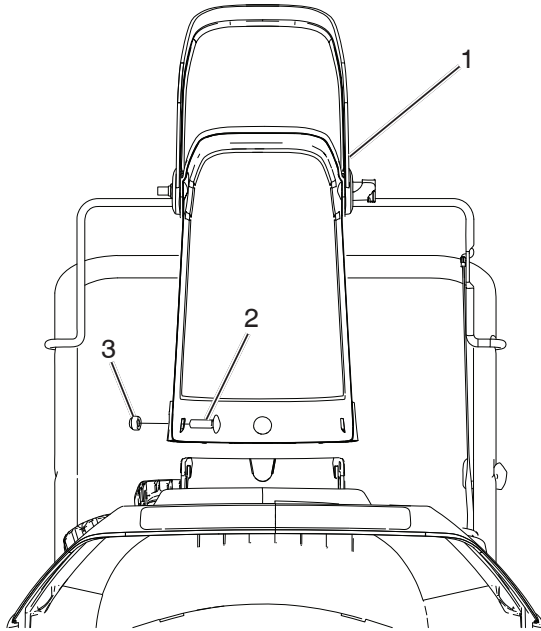

Figure 27
3. Remove the discharge chute and the discharge chute handle by removing the three carriage bolts and three flange nuts (Figure 27).
17. Install the discharge chute, and the discharge chute handle onto the snowthrower using the hardware removed in step 3 (Figure 27).